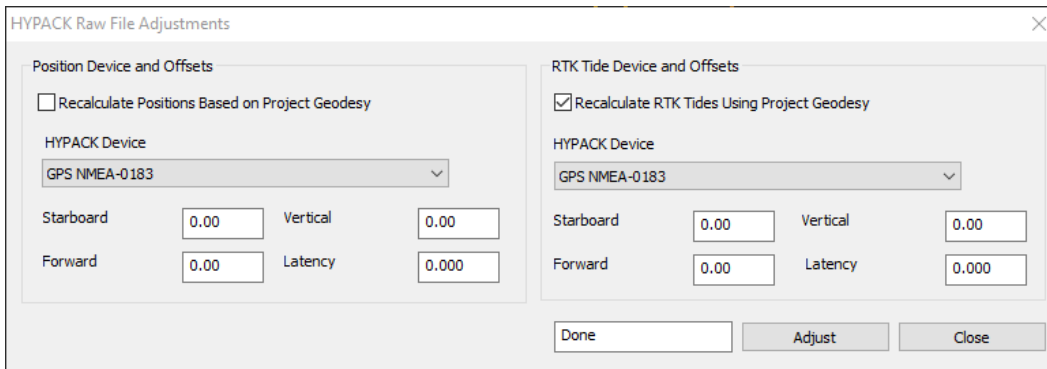

Figure 19.— HYPACK Raw File Adjustments window via Tools in the SBMAX64 menu bar.
4. Then, under Tools in the SBMAX64 menu bar, open “HYPACK Raw File Adjustments.” Check the “Recalculate RTK Tides Using Project Geodesy” box under RTK Tide Device and Offsets. Set HYPACK Device to the GPS device. Click “Adjust” when it shows “Done,” then click “Close” (figure 19).